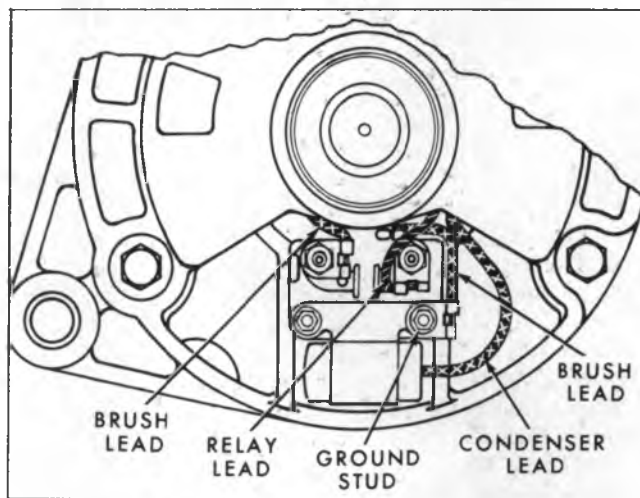

Fig. 9C--Lead Arrangement After Assembly
8. Rearrange leads as shown in Figure 9C with right-hand brush lead connected under the right hand hex-head stud.